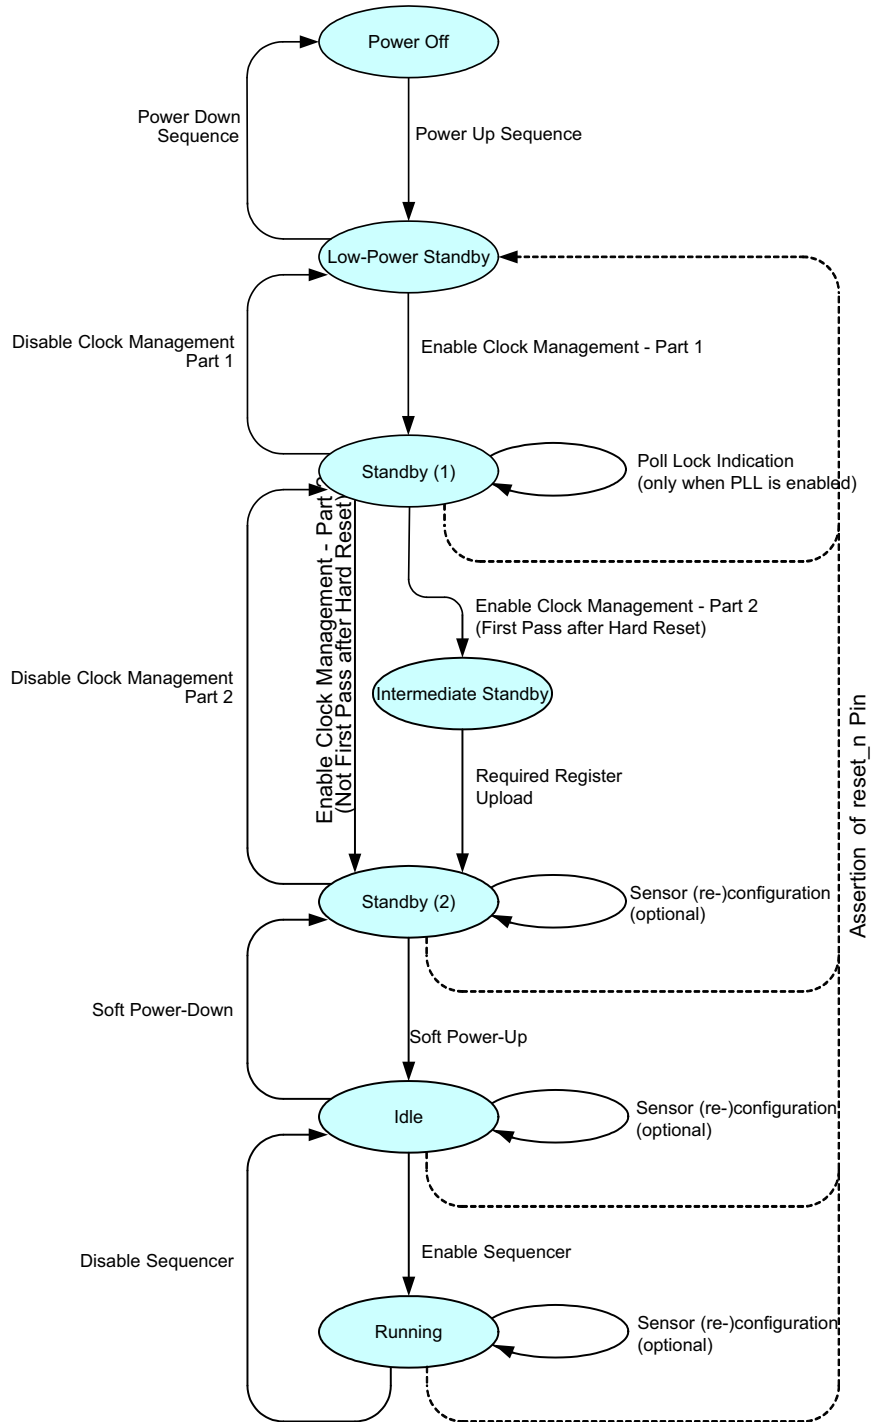

Figure 16. Sensor Operation Flowchart
Figure 16 shows the sensor operation flowchart. The sensor has six different 'states'. Every state is indicated with the oval circle. These states are Power off, Low power standby, Standby (1), Standby (2), Idle, Running.
Check the PLL\_lock flag 24[0] by reading the SPI register. When the flag is set, the ‘Enable Clock Management’ action can be continued. When PLL is not used, this step can be bypassed as shown in Figure 16 on page 16.